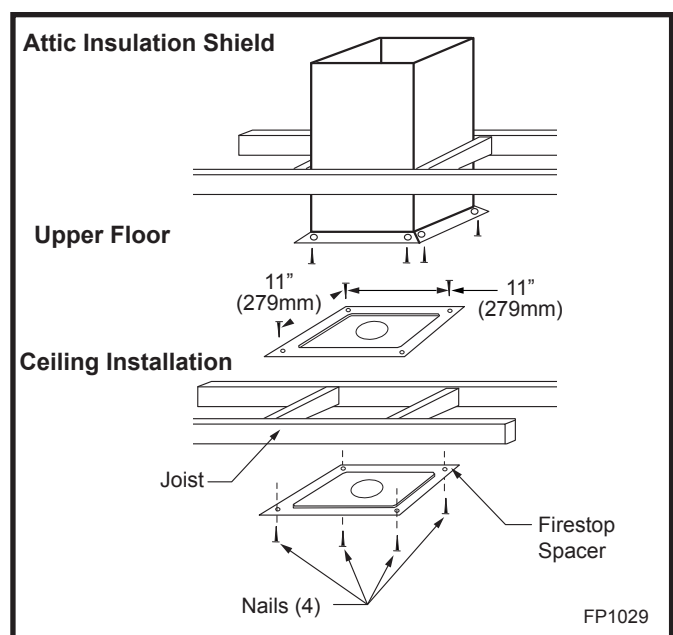

Fig. 43 Place firestop spacer(s) and secure.
6. Place firestop(s) #7DVFS or Attic Insulation Shield #7DVAIS into position and secure. (Fig. 43)